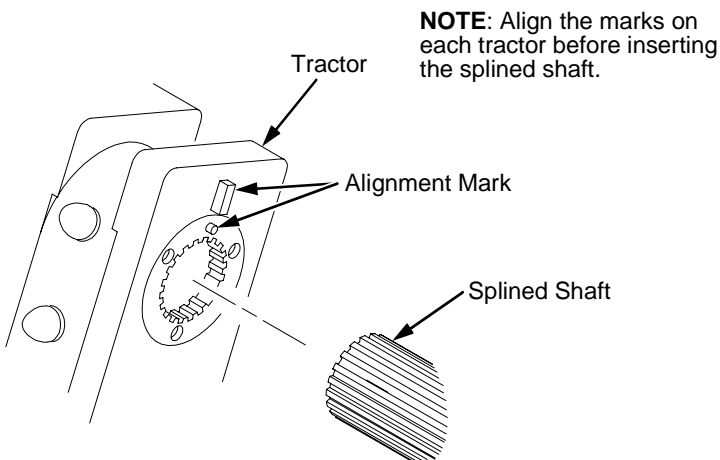

Figure 39. Splined Shaft and Tractor Installation
1. Open the doors on the left and right tractors. Position the tractor belts so the alignment marks are at the top on both tractors. (See Figure 39.)